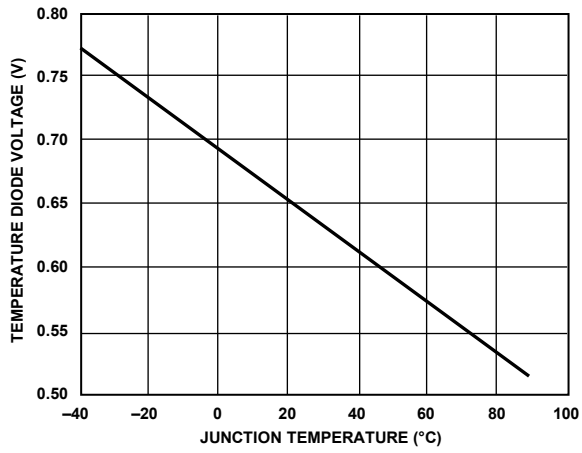

Figure 61. Typical Voltage Response of 1x Temperature Diode
4. Set Register 0x18E6 to 0x01 to turn on voltage export of the central 1× temperature diode. The typical voltage response of the temperature diode is shown in Figure 61. Even though this voltage does represent the die temperature, it is recommended to take measurements from a pair of diodes for improved accuracy. The following step explains how to enable the 20× diode.